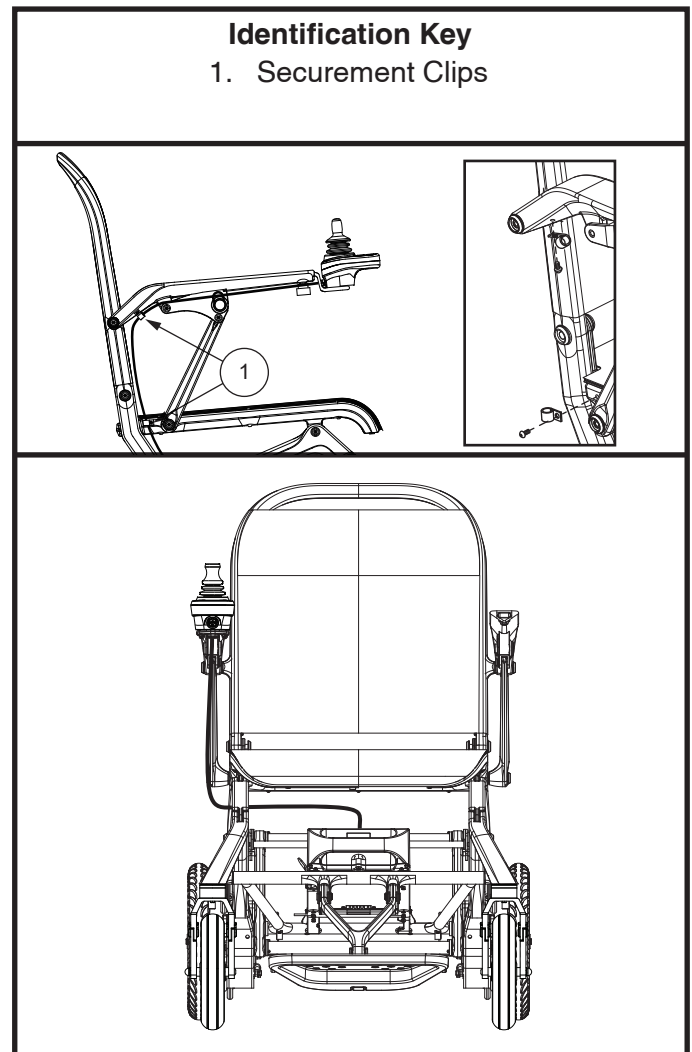

Figure 10. Controller Position
2. Unhook the controller harness from the securement clips. Uninstall the securement clips and reinstall them on the other side. **See figure 10.**
9. Hook the controller harness to the securement clips. **See figure 10.** Ensure that the armrest can freely be raised and lowered without any tension on the harness so the securement clips do not become disconnected.